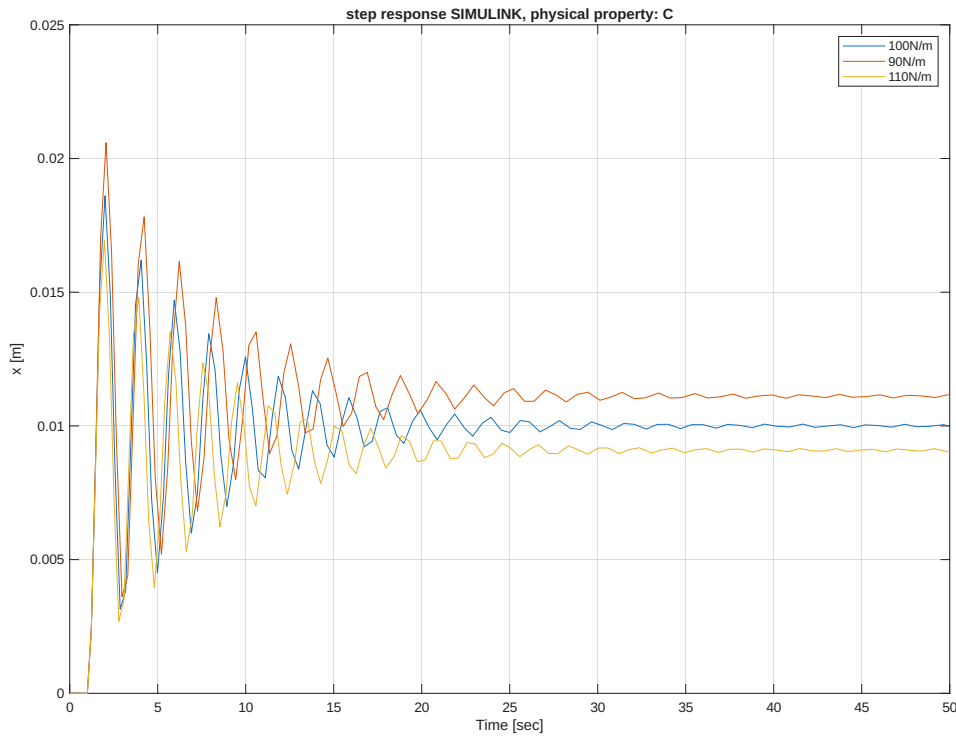

Figure 10: Step response with different values for the spring constant.
**Influence of spring constant (C):** As shown in figure 10, changing the spring constant influences the value to which  $x$  converges towards. A reduced spring constant leads to a larger convergent value of  $x$ , while an increased spring constant leads to a smaller convergent value of  $x$ .